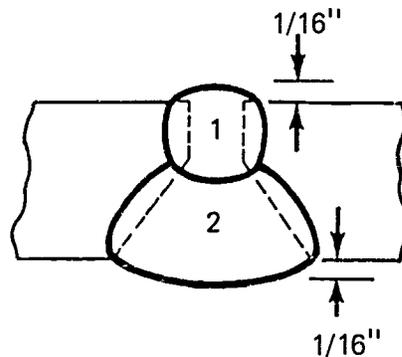

FIGURE 7
- I. For root pass, start arc $1/2''$ to $3/4''$ down from end; begin welding with a slight weaving motion keeping electrode in leading edge of puddle and traveling at a speed to fill joint half full (Figure 7)